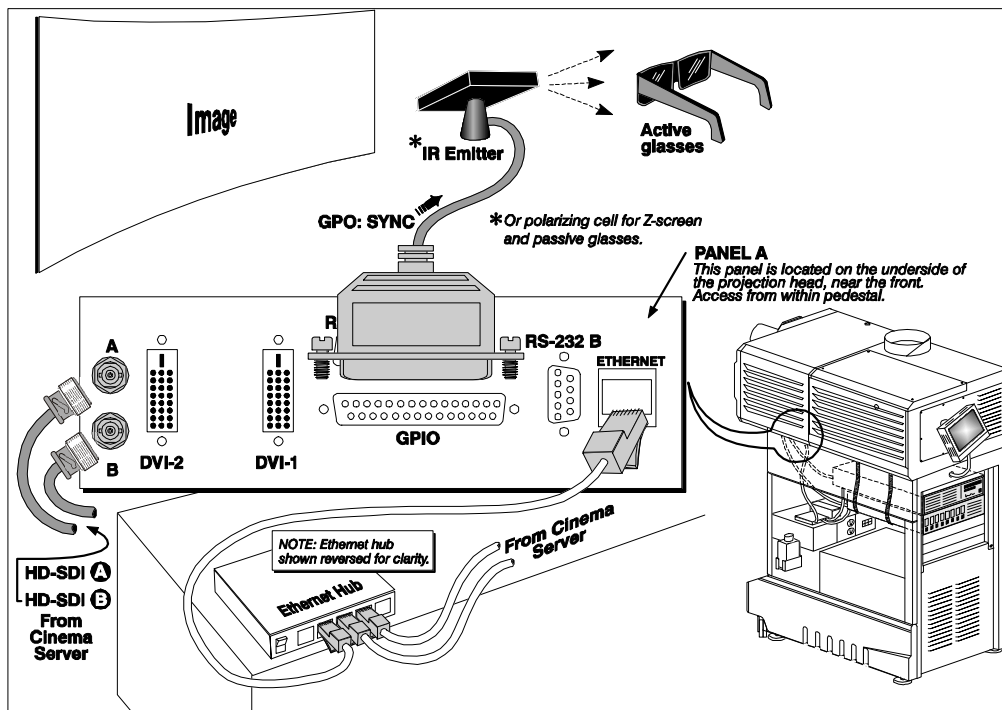

Figure 2-5 Typical Dual-Input 3D System (CP2000 Shown with Active Glasses)
- Proper 3D configuration defined in the TPC's **Custom: 3D Control** menu. For best results, use the 3D internal test pattern shown in **Figure 2-5**.
Figure 2-5 shows the general hardware configuration currently supported. Use either an IR emitter to control gating in active glasses, or a polarizing cell and Z-screen with passive glasses.
Both incoming frame rates are likely too slow for flicker-free 3D viewing, and need to be increased within the projector for at least 96 Hz output. For example, a typical HD-SDI rate of 24Hz is still only 48 Hz when L/R are combined (see Figure 2-5). In the Custom: 3D Control menu, set the desired **Frame Rate N:M** ratio-or number of frames displayed per number of frames for complete data. For example, a setting of 6:2 creates 6 frames from 2 inputs (=144 Hz). The resulting frame rate cannot exceed the maximum frame rate possible in the projector-with 24 Hz full-screen incoming signals, use a maximum factor of 5:2.